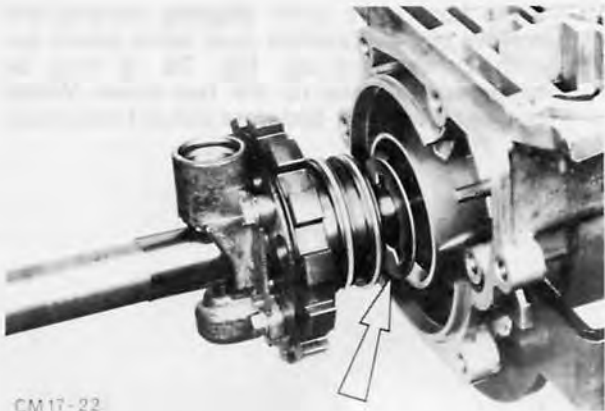

Fig. 81. Output shaft complete with governor and thrust washer No. 8
16. Withdraw output shaft complete with governor and thrust washer No. 8 from rear, Fig. 81.